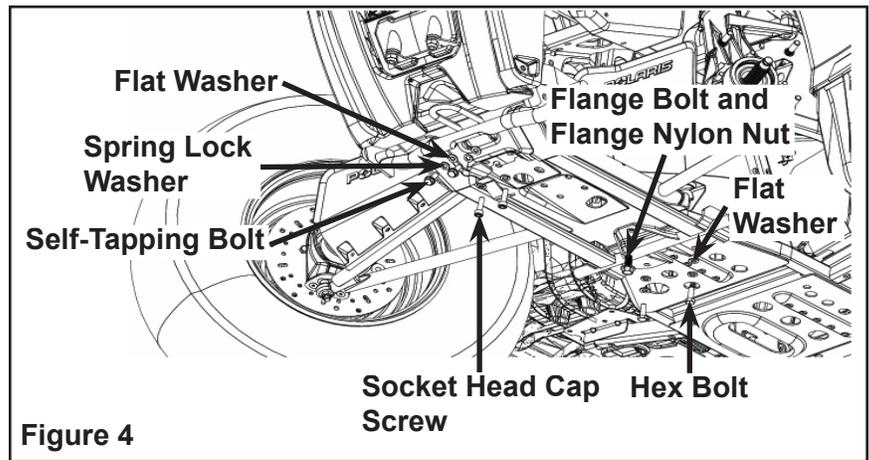

Figure 4
- Fasten the front section of the mount plate using 5/16"-18 x 1 self-tapping bolts, spring lock washers and M8 flat washers. Fasten the middle section to the fixation plate using M8-1.25 x mm socket head cap screws and spring lock washers. Fasten the middle-rear section using M10-1.5 x mm hex. flange bolt with hex. flange nylon nut. Fasten the rear section to the clamping bar using M8-1.25 x 25 mm hex. bolts, spring lock washers and flat washers. Figure 4.